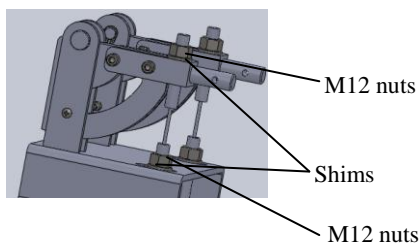

Figure 4
①The control mechanism is arranged before delivery, only customers should do is to install the stopping wire: take the other side of stopping wire, let the screw tube into the U-flute of brake-loosing foundation, use M12 nuts to fix both sides, use the mating screw to fix the upper side. As show in figure 4 below: